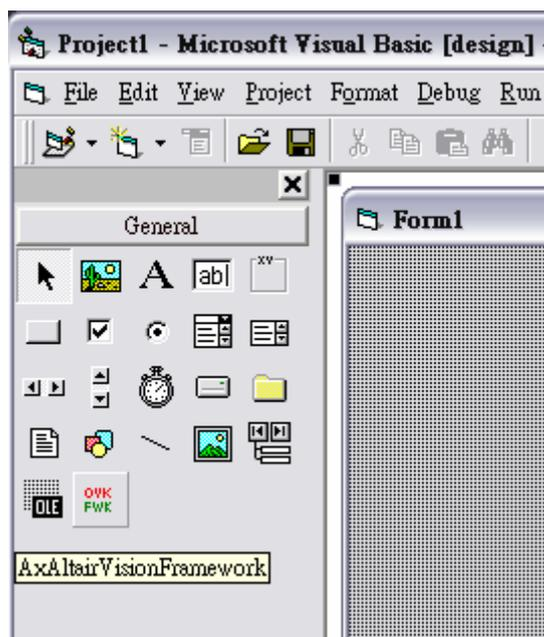

Figure 3
3. You can see the components in toolbox after finishing above procedures that names "**AxAltairVisionFramework**", as shown in Figure 3.